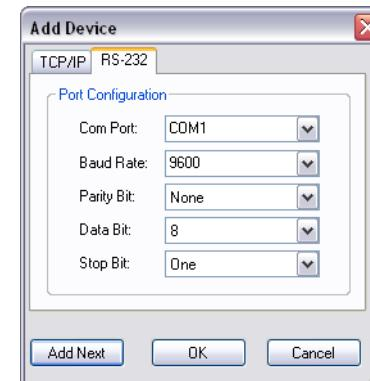

Figure 4-11 — Add Device screen
3. If you have not previously updated firmware for the MMX switcher before, on the Add Device screen (figure 4-11), select the RS-232 tab.